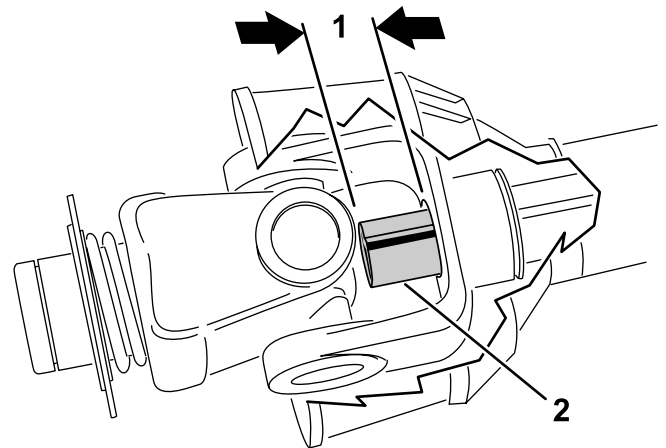

Figure 16
9. Fully slide together the PTO shaft tubes. Verify that the **inside** tube does not protrude into the cross and bearing section of the outer tube (Figure 16). If this happens, you need to cut off **more** of the inside tube—proceed to next step.
10. Measure the distance the inside tube protrudes into the cross and bearing section of the outer tube (Figure 16). Add this distance to the dimension attained in step 8.